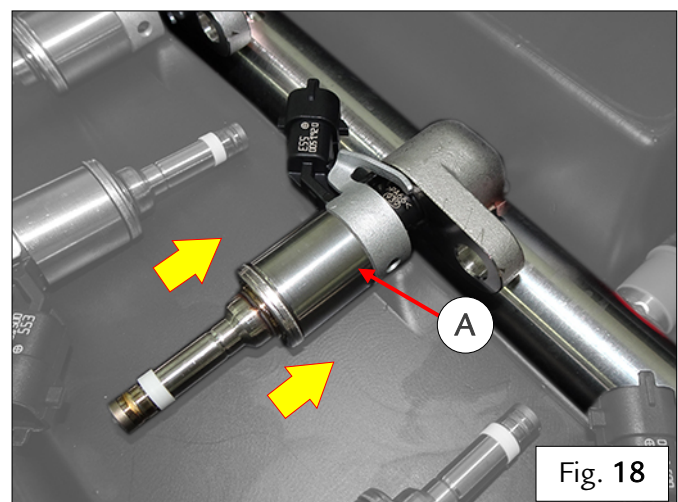

Fig. 18
- After replacing all the seal rings, refit the injector (A) on the rail, pushing gently into place in the direction indicated by the yellow arrows - Fig. 18.